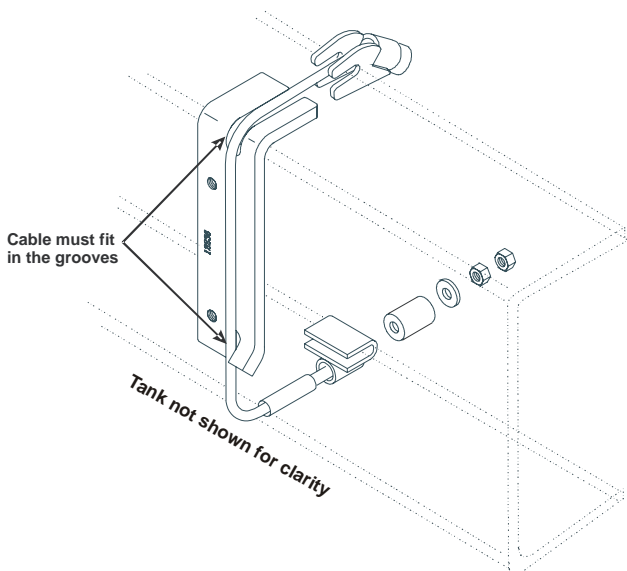

Figure 3.3
- ☐ Route the cable straps through the grooves on the tank mount brackets, behind the steel lines and under the frame (Figure 3.3). Adjust the straps and tank brackets as necessary for a good fit on the frame. Set the mount brackets as far apart as possible.